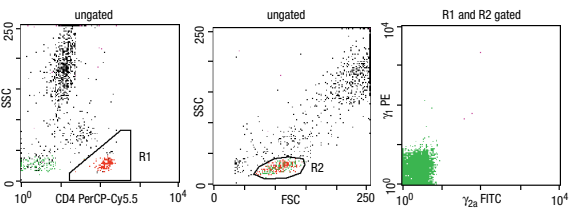

Figure 1 Gating strategy and isotype control
3. Acquire data with CellQuest Pro or CellQuest software, using a fluorescence or forward scatter (FSC) threshold. Collect at least 20,000 CD4⁺ lymphocytes. During acquisition set up a CD4 vs SSC dot plot (Figure 1). Gate on the CD4⁺ lymphocytes (R1). In addition, create an FSC vs SSC dot plot and draw a region around the lymphocytes (R2). Collect at least 20,000 events that fall in R1 and R2.